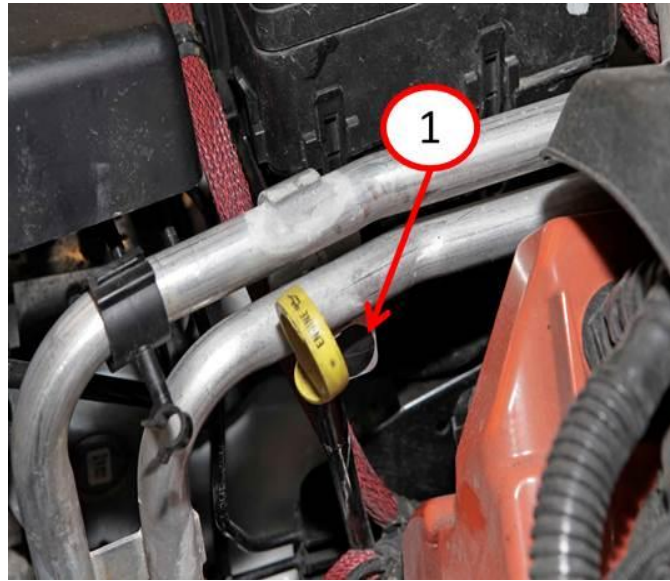
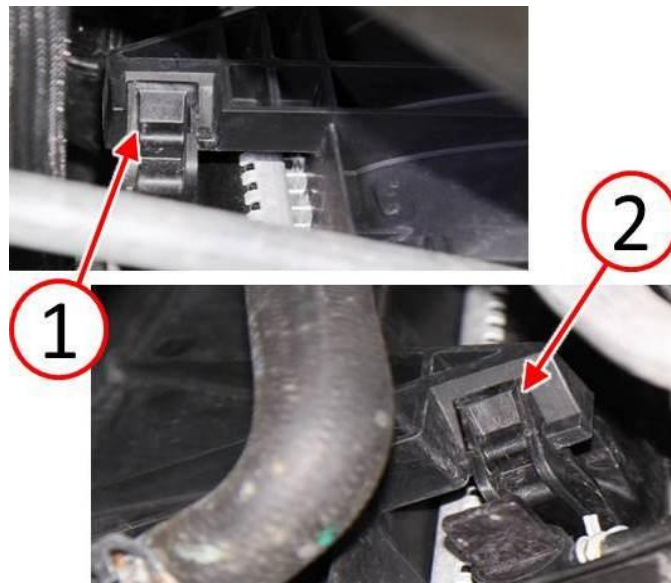

Fig. 8 Push Pin for Tubes
Fig. 18 Latch Lower Fan Shroud Clips
19. If equipped with supercharger, disconnect the push pin (1) securing the coolant tubes by the Power Distribution Center (PDC) (Fig. 8).
42. Install the push pin for the coolant tubes next to the PDC if equipped with supercharger (Fig. 8).
46. Install the belly pan and the bolts (1).
49. Insert the fan assembly into the lower fan shroud clips (1 and 2) (Fig. 18).